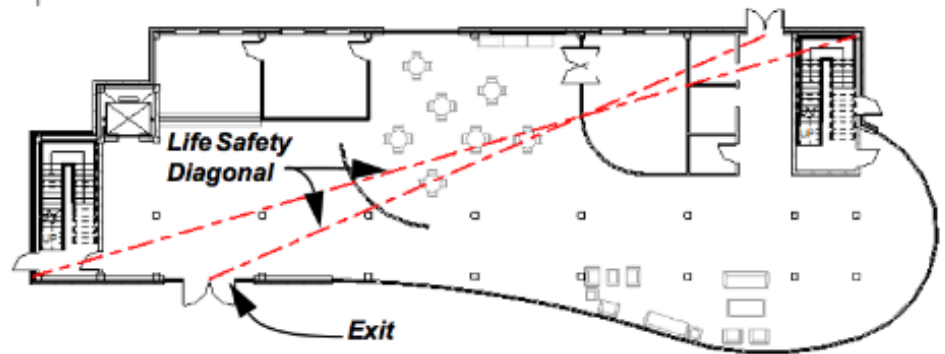

Figure 14–37
10. Draw a diagonal line from the lower left corner of the building to the upper right corner of the building, and another diagonal line from exit to exit, as shown in Figure 14–37.